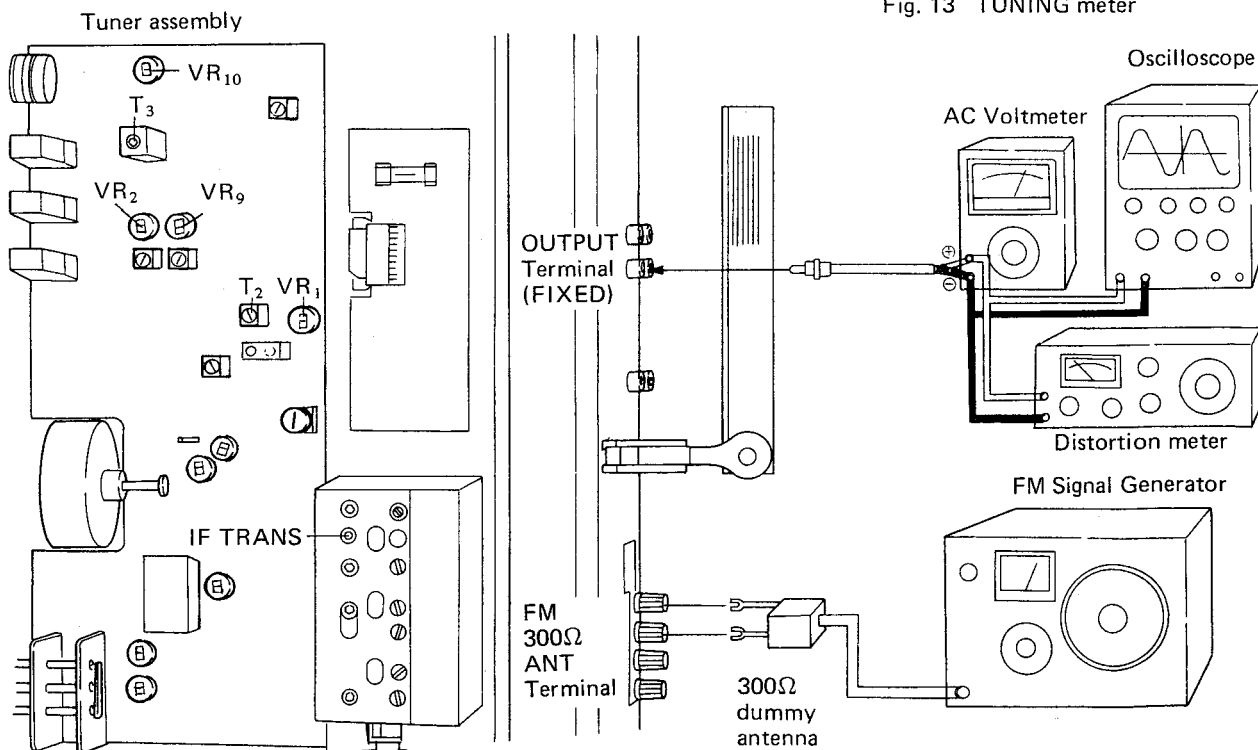

Fig. 12
1. Connect the test instruments as shown in Fig. 12.